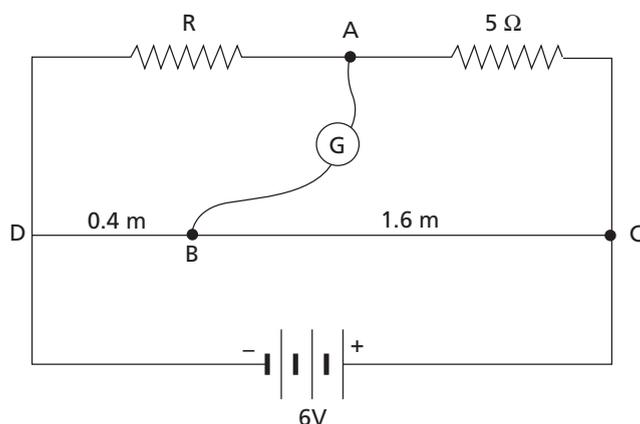

Figure 22.32
- ***36 In the circuit of Figure 22.32, CD is a 2.0 m length of nichrome wire of value 1.8Ω . The galvanometer connected between A and B registers no current. Calculate the value of the unknown resistor R .